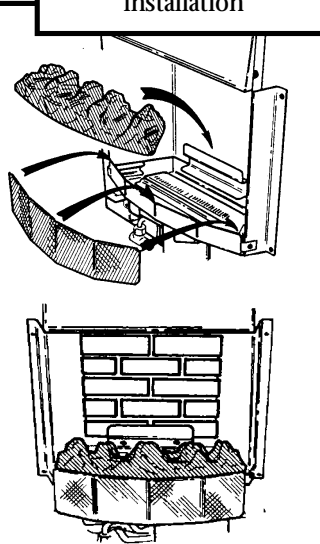

Fig. 34 Tray trim & front base coal installation
**2** Make sure that the tray trim is fitted over the front edge of the burner tray and that it is pushed down fully (see figure 34). Place the front base coal in the burner compartment so that it rests on the ledges at the sides and front. Pull the coal forward so that it is immediately behind the front rim of the burner compartment. (See figure 34).